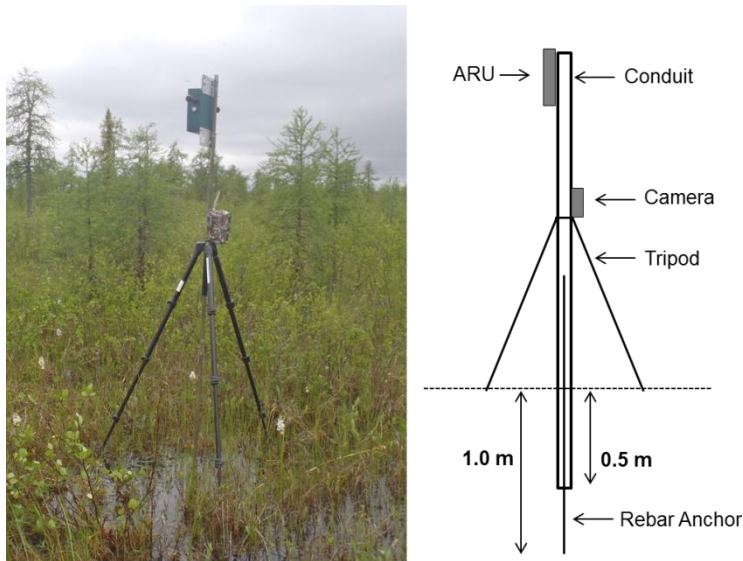

Figure 10. Camera and ARU set up in a wet area using a tripod mount
Units deployed at wet sites (e.g., bogs and fens) where there are no suitable trees for unit attachment will need to be mounted to conduit and stabilised with a tripod (Figure 10).
- Pound the 2m rebar into the ground using the post pounder (Figure 10)
- Attach the mounting block to the threaded inset on the back of the camera using the socket wrench with extension, and tighten to conduit so that the camera lens is at a height of 1m above the ground (Figure 10)